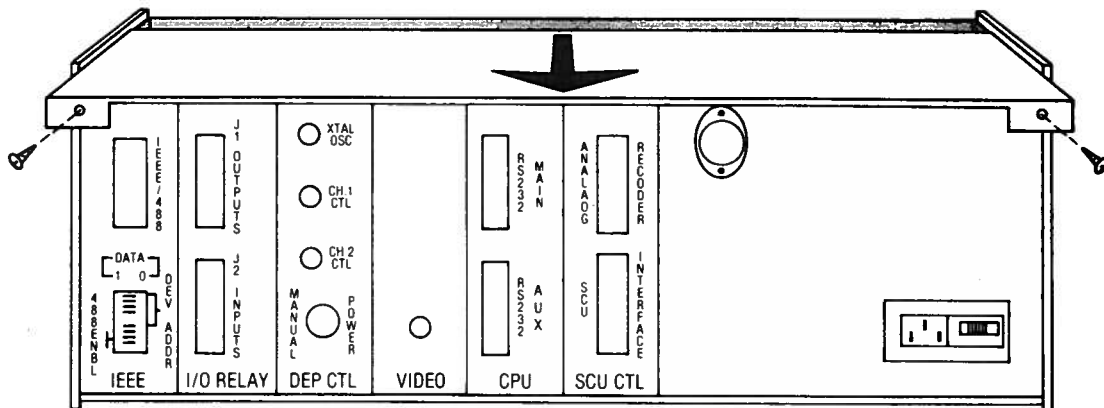

Figure 3.13 - Operator's Console Cover
1. Remove the two screws in the upper corners of the rear panel so that the top of the control unit can be removed by sliding it to the rear. Take the top completely off. (See Figure 3.13).